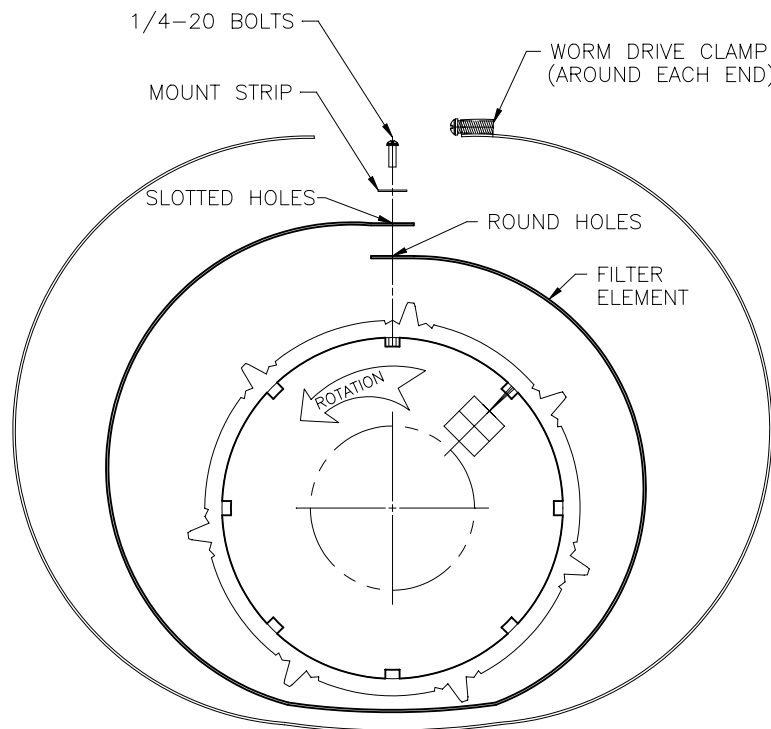

Figure 32: Filter element mounting detail.
3. Unscrew the two worm drive clamps and carefully remove (See Figure 32).
3. Mount the pulleys and sprockets as close as possible to their bearings. Also, mount pulley and sprocket faces in line (See Figure 32).